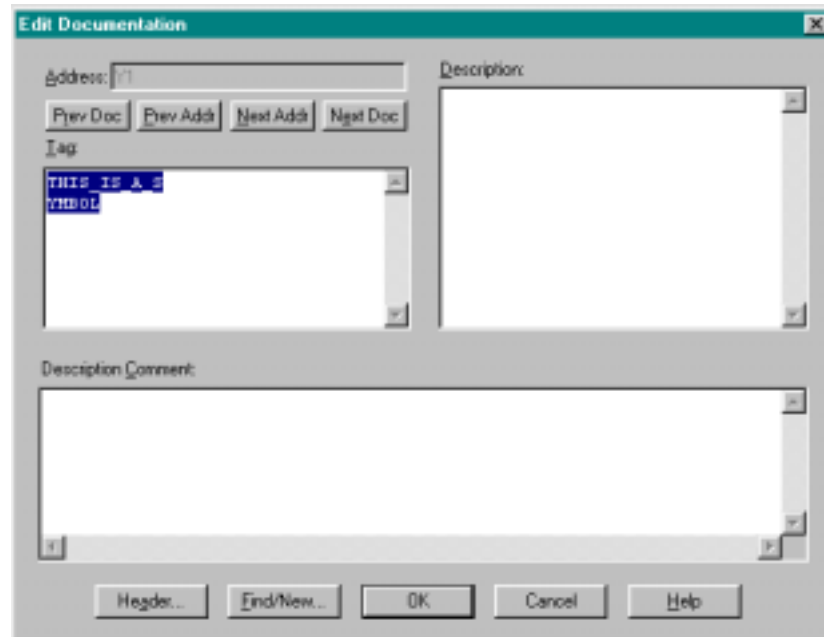

Figure 7.7
The Edit Documentation window is displayed. You can enter a new tag, description, and comment (see Figure 7.7) Select OK when you're finished.
**NOTE** If you double-click in the description column to edit existing documentation, the cursor will be placed in the description column in the Edit Documentation window (Figure 7.7). Similarly, if you double-click in the tag column, the cursor will be placed in the tag column in the Edit Documentation Window.
The Edit Documentation window is displayed. You can change the tag, description, and comment (Figure 7.7). Select OK when you're finished.
The Assign Tags option allows you to assign tags, descriptions, and comments to an undocumented address that you are currently using in your ladder program. For example, if you enter an address in an ADD instruction and that address does not have a tag or description, the Edit Documentation window in Figure 7.7 will automatically appear when you move off the address. Enter a tag, description, and comment, and press OK to save the documentation. This allows you to document undocumented addresses as you program without leaving the ladder editor.
The Assign Addresses option allows you to assign addresses, descriptions, and comments to tags as you use them in your ladder program. For example, if you enter the tag NEW\_TAG (and NEW\_TAG doesn't exist), the Edit Documentation window in Figure 7.7 will automatically appear with the tag filled in. You can enter the address, description, comment, and press OK to save the documentation. This allows you to assign addresses to tags as you program without leaving the ladder editor.
You can automatically assign documentation and edit existing documentation by pressing Ctrl L on an address in your ladder program. For example, if you would like to change the documentation for the address 00001 that is used on a contact, move the cursor to that location and press Ctrl L. The Edit Documentation window in Figure 7.7 automatically appears. Enter the tag, description, and comment, and press OK to save the documentation.